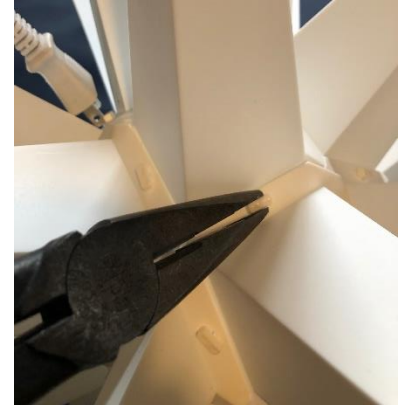

Figure 3: Removing Fasteners from Top Point
- Using the needle nose pliers, carefully remove the four fasteners connecting the top point to the rest of the star, Figure 3. Carefully turn the fasteners counter clockwise. Set the four fasteners aside as they will be used to fasten the new assembly to the star.